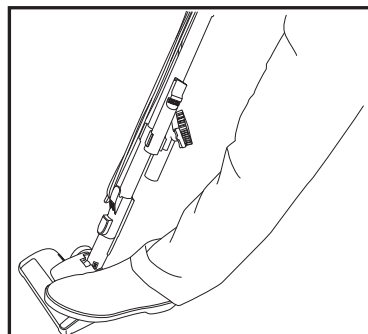

Fig. 2
1. After turning on the vacuum, recline the wand by stepping on top of the floor brush and pulling the wand toward you (Fig. 2).